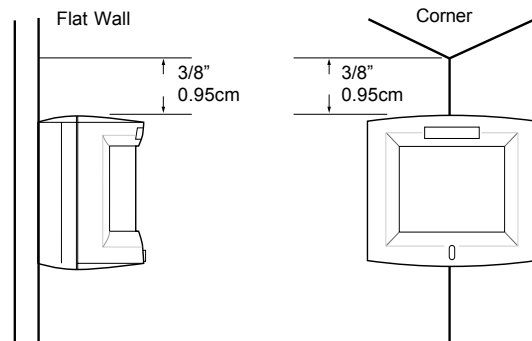

Figure 2. Mounting
- Mount the detector either flat on the wall or in a corner and at least 3/8" (0.95cm) from the ceiling. See Figure 2.